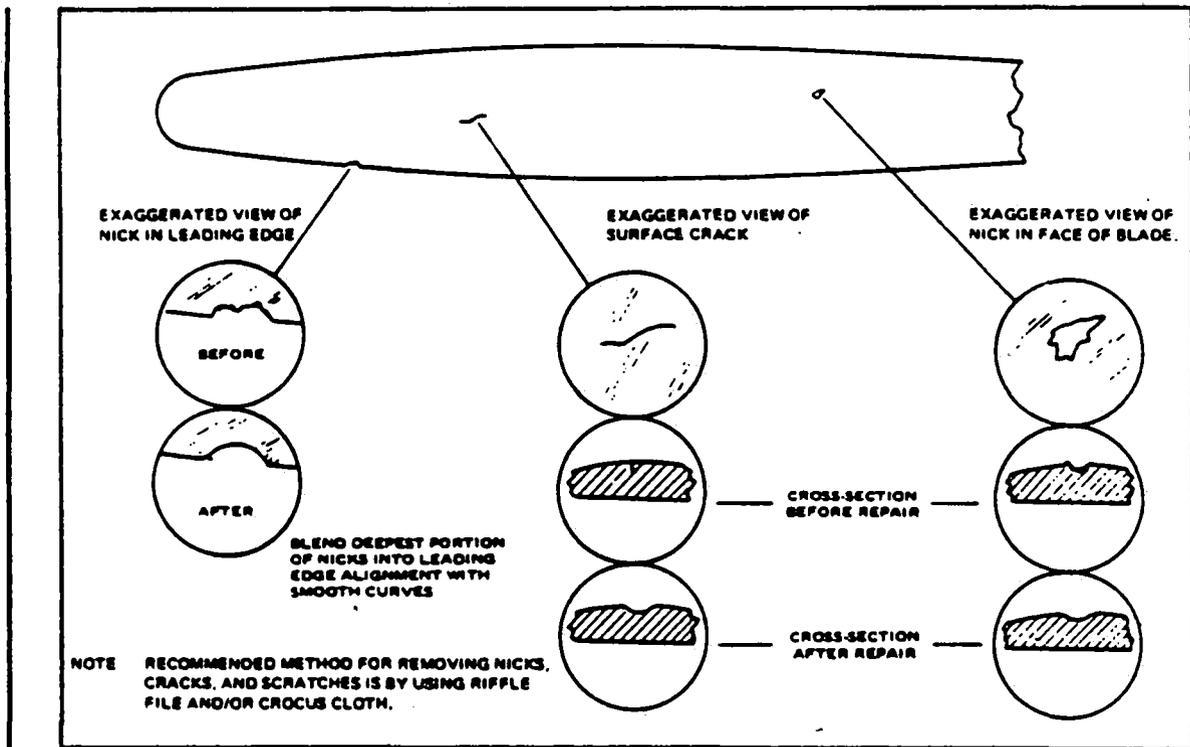

Figure 8A-3. Typical Nicks and Removal Methods
- g. Inspect blades for damage or cracks. Nicks in leading edges of blades should be filed out and all edges rounded, as cracks sometimes start from such places. Use fine emery cloth for finishing. Refer to Figure 8A-3 for propeller blade care.
8A-11. INSTALLATION OF PROPELLER. (Refer to Figure 8A-2.)
- b. Install spinner bulkhead (13) on propeller hub and secure with locknuts. Torque bolts to specifications given in Table VIIIA-1.
- d. Position the prop flange and starter ring gear so the two short bushings are horizontal. (Refer to Figure 8A-2.)
- e. Lubricate and install O-ring (15) in prop hub.
- f. Install sleeve (19), spring (18), thimble (17), and shim (16) in engine crankshaft on propeller installations NOT using the spring back-up system in the hub.
- i. Install spinner (7). Torque spinner screws (8) and check nut (4) per Table VIIIA-1. Safety check nut with MS20995-C41 wire.